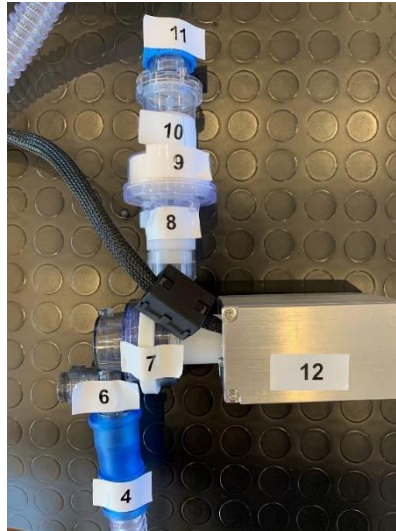

Figure 4.18: Connecting ABU sensor pack.
- 11- Connect the ABU sensor pack (12) to the ABU check-valve (7) as shown in Figure (Figure 4.18). Be aware that the cable coming out of the ABU sensor pack must face the ABU check-valve as shown in Figure 4.18.